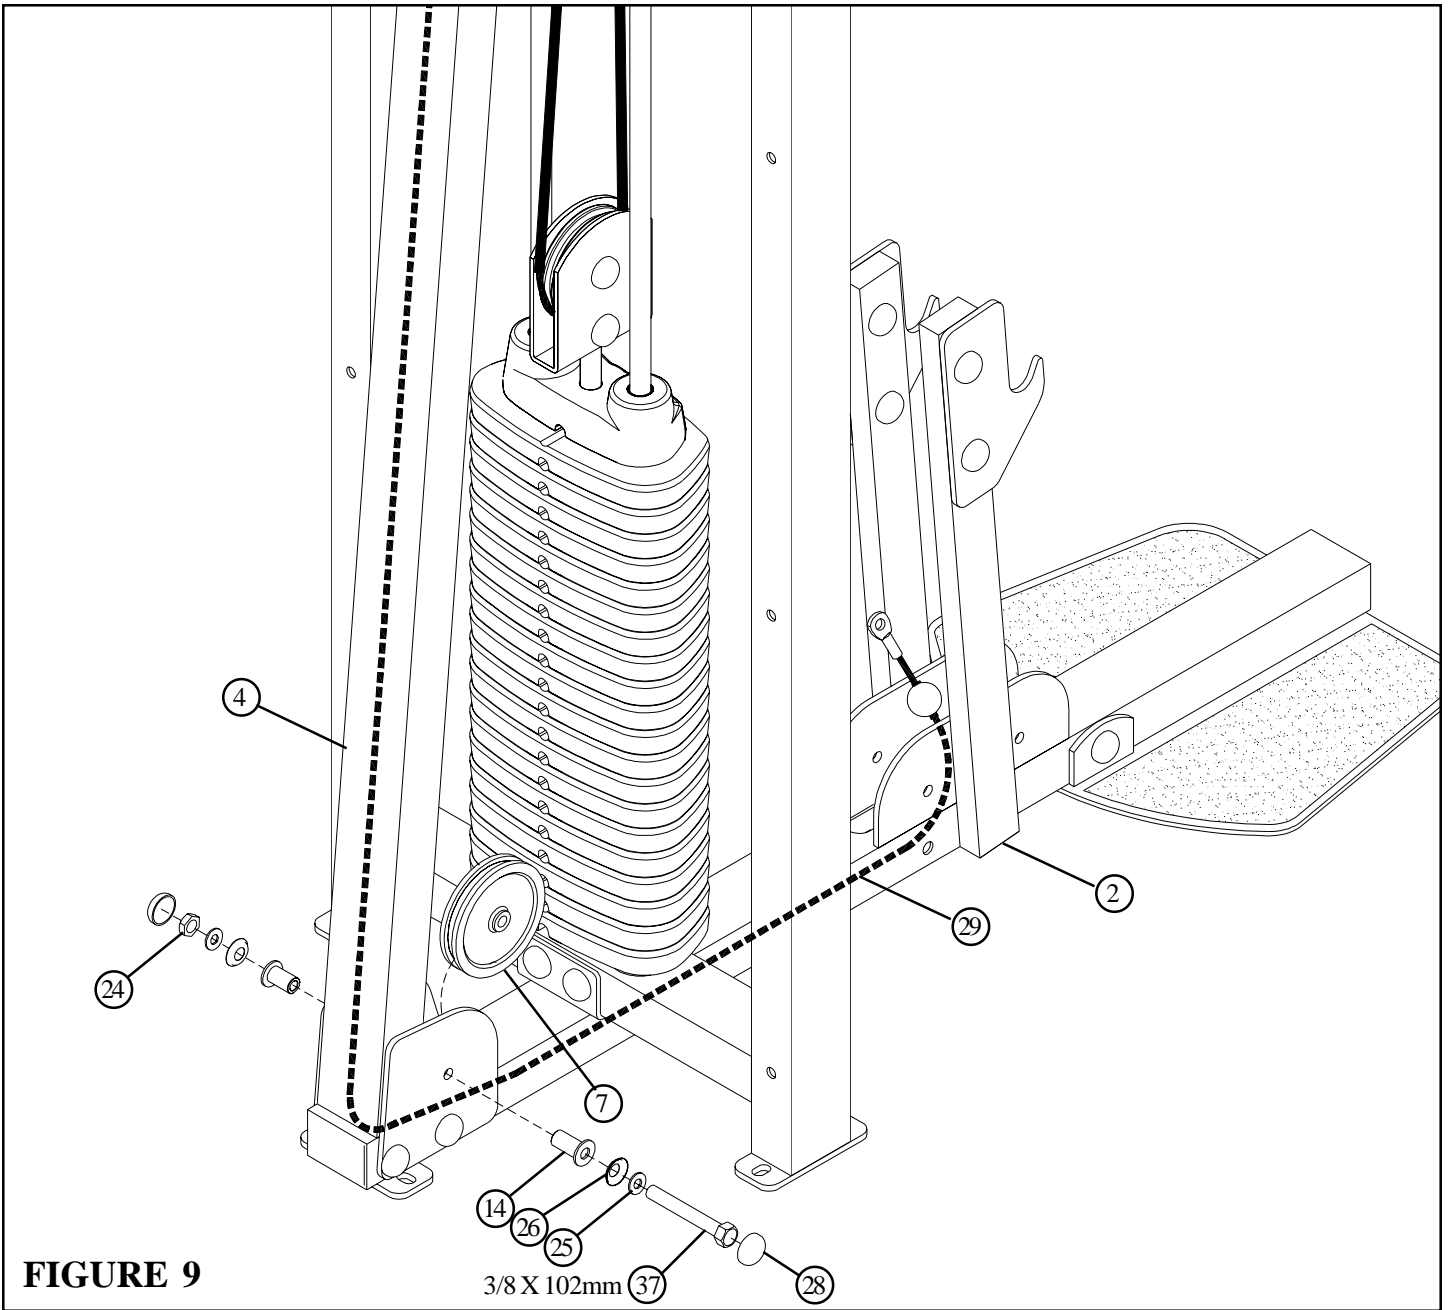

FIGURE 9
- Continue to route the BI/TRI CABLE (29) *inside* the REAR UPRIGHT (4) and BASE FRAME(2) and **SECURELY** assemble one 4-1/2” PULLEY (7) to the REAR UPRIGHT (4) using two RH CAPS (28), one 3/8 X 102mm BOLT (37), two 3/8” SAE WASHERS (25), two 3/8” RH WASHERS (26), two 3/8 X 1-1/4” FLANGE SPACERS (14) and one 3/8” LOW HEIGHT LOCK NUT (24) as shown in FIGURE 9.